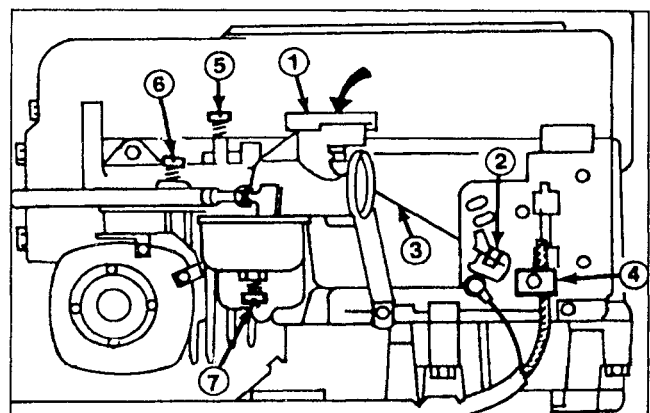

Figure 19
1. Remove the screws holding air cleaner in place and lift complete air cleaner assembly off carburetor (Fig. 19).
2. Move throttle control lever to CHOKE position and check the position of the choke butterfly; it should be fully closed (Fig. 19).
3. Move throttle control lever to FAST position. The butterfly should be in the fully open position (Fig. 19).
2. Loosen the throttle cable clamp screw (Fig. 19) and move the control cable casing and wire until the throttle lever touches choke link.